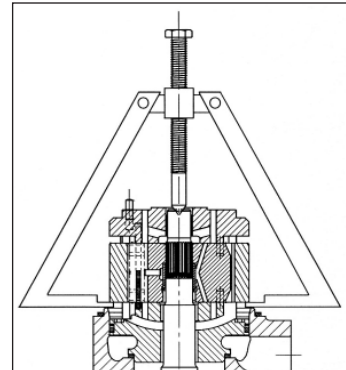

Figure 43
4. Disassemble the cartridge/front cap with an extractor (Fig. 43).